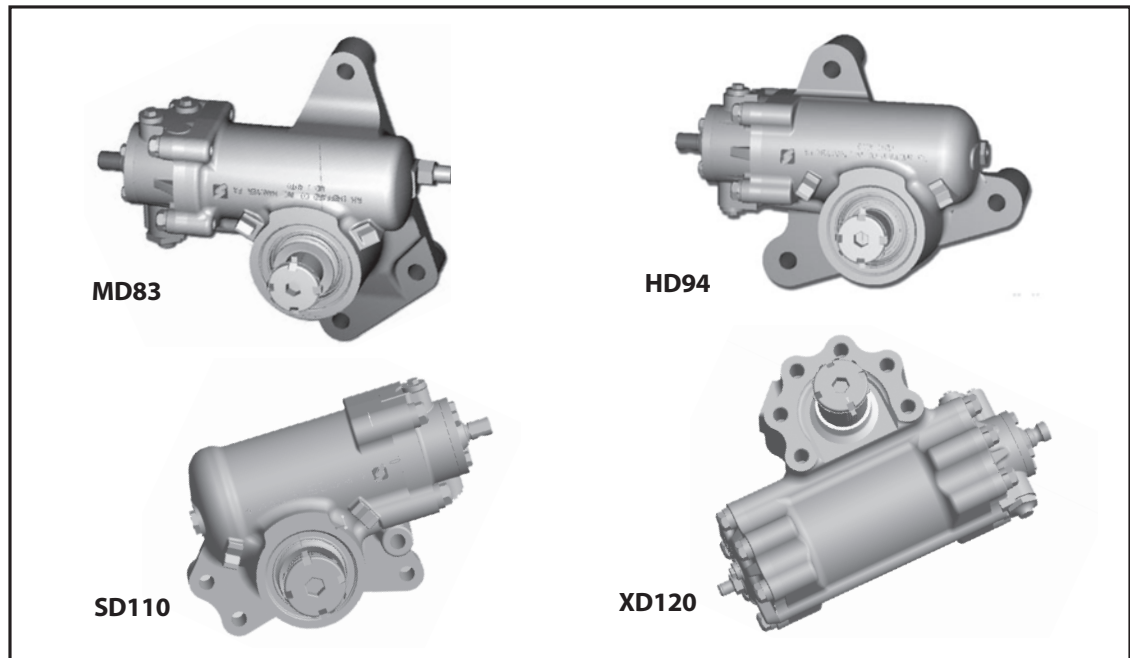

Figure 1. HD and MD Steering Gears.
- **Four Applications** (Figure 1) – For front axle ratings from 6,000 to in excess of 23,000 lbs.